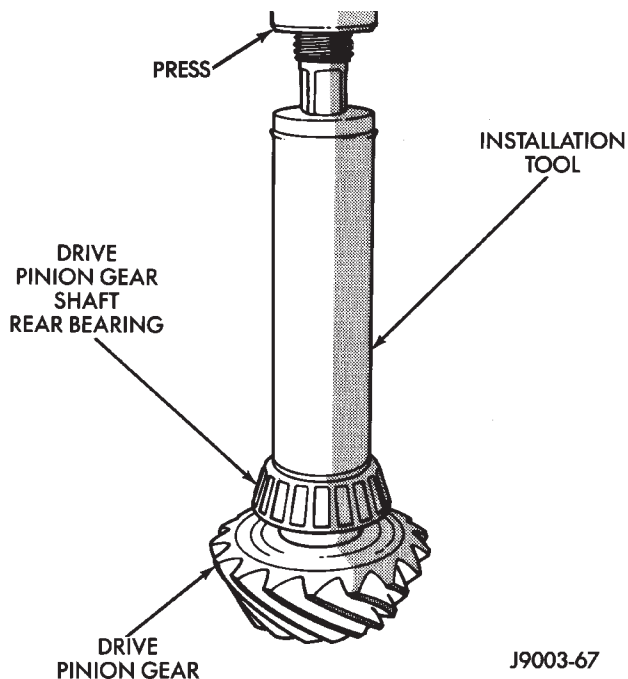

Fig. 30 Shaft Rear Bearing Installation
(6) Install the rear bearing and slinger, if equipped, on the pinion gear with Installer D-389 (Fig. 30).